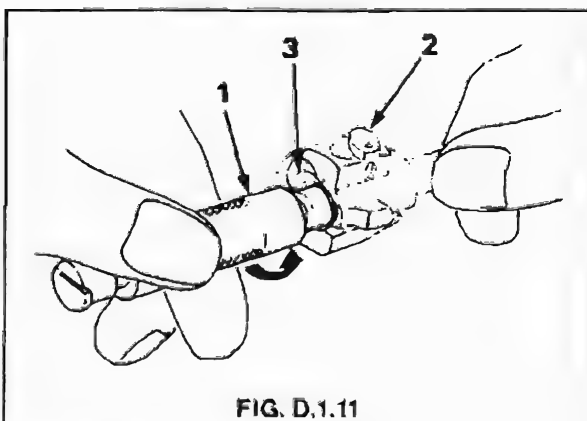

FIG. D.1.11
12. Position the Accept gauge and 1,545 mm of the plug gauge squarely onto the bolt face and rotate the gauge between the bolt face and the underside face of the extractor lip. If the gauge cannot be rotated the reason must be investigated and the cause rectified. See Fig. D.1.11